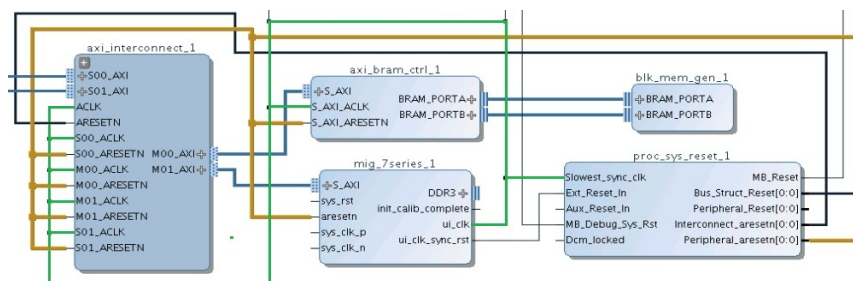

Figure 42: AXI Interconnect to Memory Connections
6. The connections you just made are shown in Table 3. Each row in the table represents a connection/net to be made. Refer to Figure 42 for these connections.